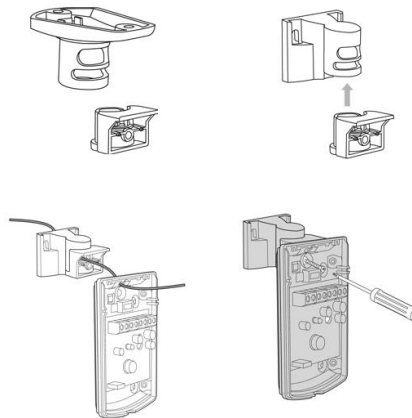

Fig. 6
The detector can either be wall, or corner mounted (We recommend on corner installation). If ceiling or special wall mounting is required, use the optional bracket base. Refer to bracket description (See fig. 6).
5. Mount the detector base to the wall, corner, or ceiling. (For bracket installation option, see fig. 6).